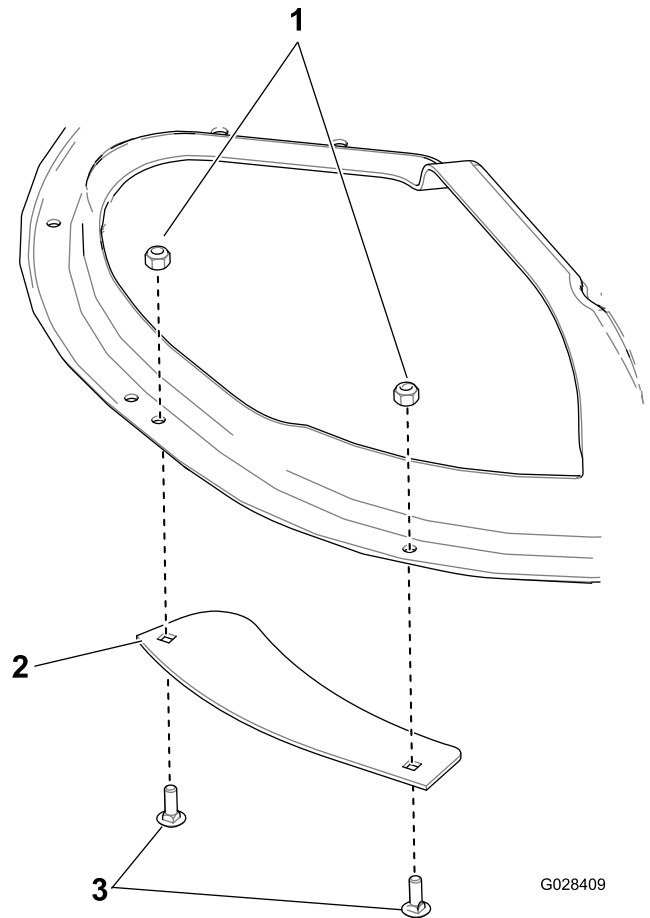

Figure 8
- Secure the blowout baffle to the deck using 2 bolts and 2 lock nuts (Figure 8).